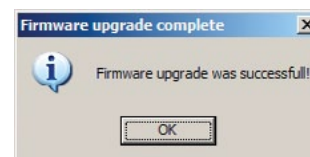

Figure 37. "Firmware upgrade" button location inside Watt Pilot controller.
3. Press and hold down “Firmware upgrade” button located inside controller box, see Figure 37 on page 39 to find there it is;